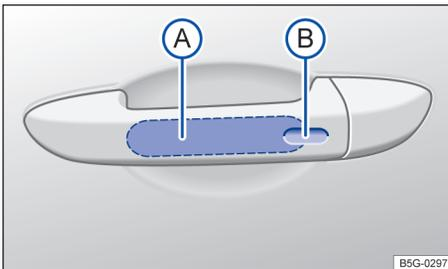

Fig. 51 Keyless Access system: Unlocking and locking sensors on the outside door handle.
Key to fig. 51:
- Grasp the door handle of the driver or front passenger door so that you touch the unlocking sensor surface → fig. 51 \(A\).
- Touch the lock sensor surface in the door handle on the driver or front passenger door → fig. 51 \(B\) *one time*. The vehicle is locked. The door being locked must be closed.
- Within 5 seconds, touch the lock sensor surface on the door handle on the driver or front passenger door → fig. 51 \(B\).
To use the convenience closing feature to close all power windows and the power sunroof, hold your finger on the lock sensor surface on the outside of the door handle → fig. 51 \(B\) for a few seconds until the windows and the power sunroof close.